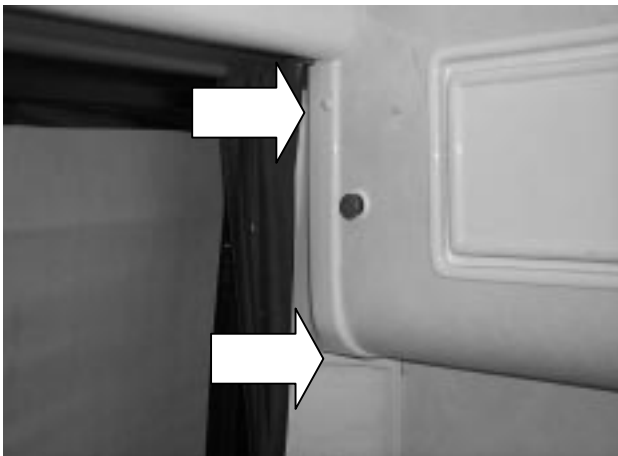

Figure 12: Corner trim molding screws. Note screw head buttons. These need to be removed first.
- 2) Undo and remove the screws securing the upper corner trim molding (see Figure 12). Withdraw the molding.